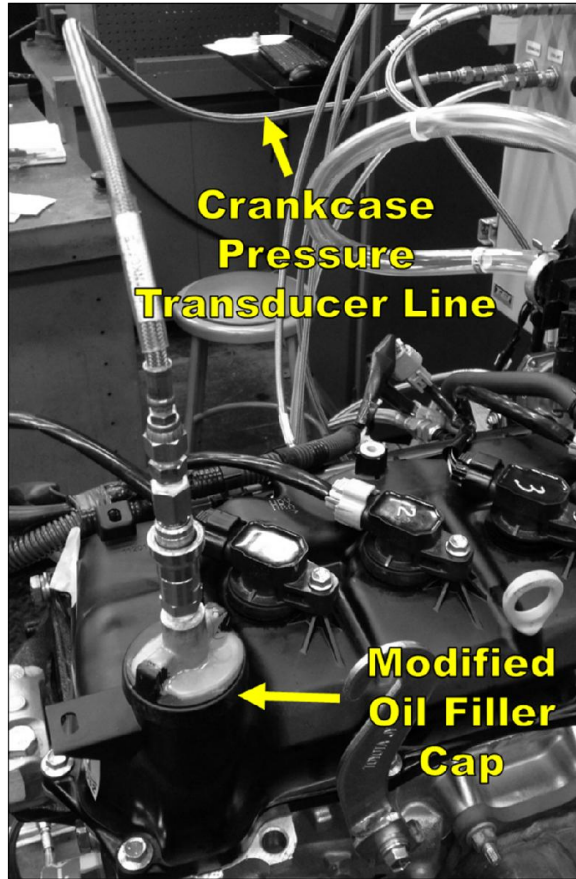

Figure 3 - Crankcase Pressure Transducer Line
- 3.12. Connect the crankcase pressure transducer line to the modified oil fill cap (Figure 3). **Complete:**